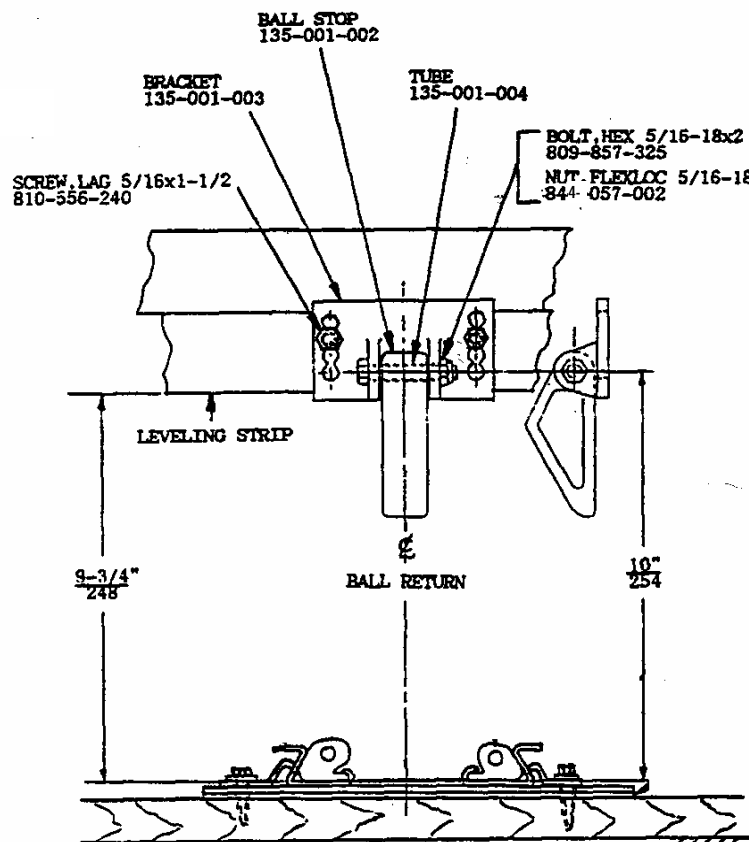

Figure 7, Ball Stop Installation
1. Assemble the ball stop as shown in Figure 7. Place the tube through the hole in the plastic stop and then position the stop between the ears of the metal bracket. Secure the plastic stop using the 5/16-18 x 2-1/4 inch bolt (809-857-365) and lock nut (844-057-002). The longest side of the plastic stop must be placed against the metal bracket and should hang down as shown in Figure 7.